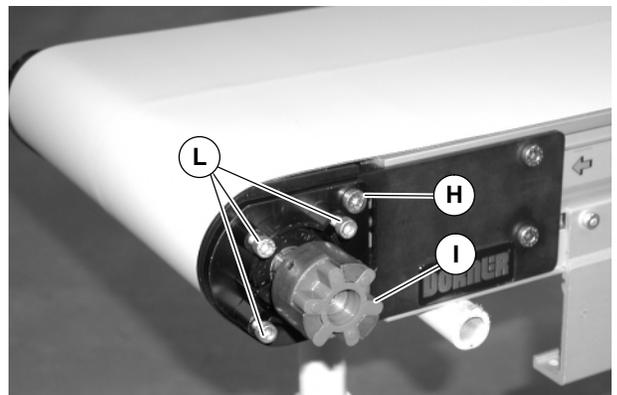

Figure 23
- b. Remove the four (4) screws (L of Figure 23) and two (2) screws (H and I).